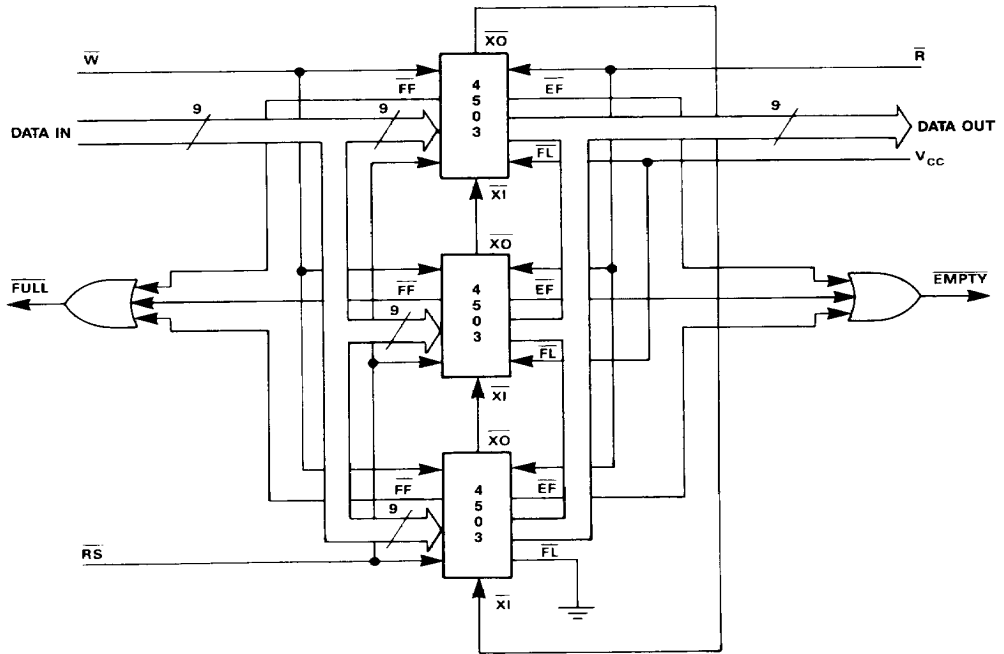

Figure 10. A 6K x 9 FIFO Configuration (Depth Expansion)
The MK4503 can easily be adapted to applications when the requirements are for greater than 2048 words. Figure 10 demonstrates Depth Expansion using three MK4503s. Any depth can be attained by adding additional MK4503s.
1. For depth expansion block see DEPTH EXPANSION Section and Figure 10.